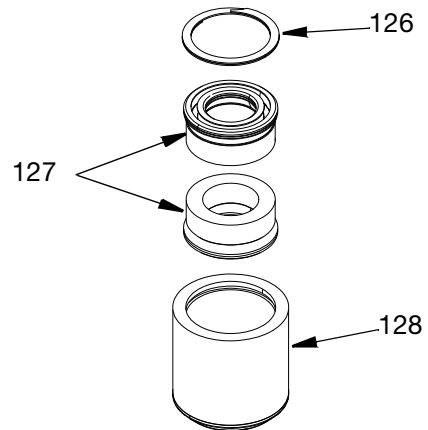

FIG. 14
- To disassemble the intake check valve assembly, remove the internal retaining ring (126) from the poppet inlet check valve (128). Using a small screwdriver or O-ring pick remove the lower shaft seals (127). Inspect the poppet inlet check valve for wear or damage. See FIG. 14.